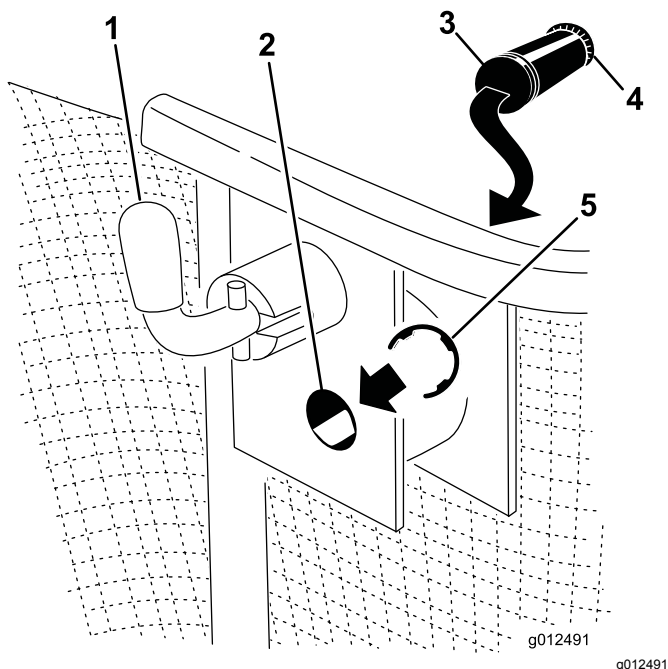

Figure 2
1. Install a push nut onto the end of each hinge pin and slide it to within an 1/8 inch (3 mm) from the end of each pin (Figure 2).
- Slide the collector into the dump frame so that the holes in the dump frame line up with the holes in the sides of the collector (Figure 2).
- Push a hinge pin through the holes on each side from inside the collector, and secure each on the outside using a snap ring installed into the groove on the pin (Figure 2).
- Turn the locking pin down to lock the dump frame in place (Figure 2). Refer to the *Operator's Manual* for more information.